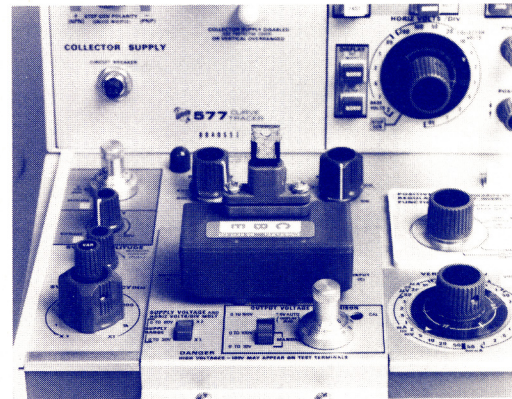

Figure 0-6. Device inserted in socket.
- 7) Insert device — Insert socket adapter in regulator test unit. Insert device to be tested in socket. See Figure 0-6